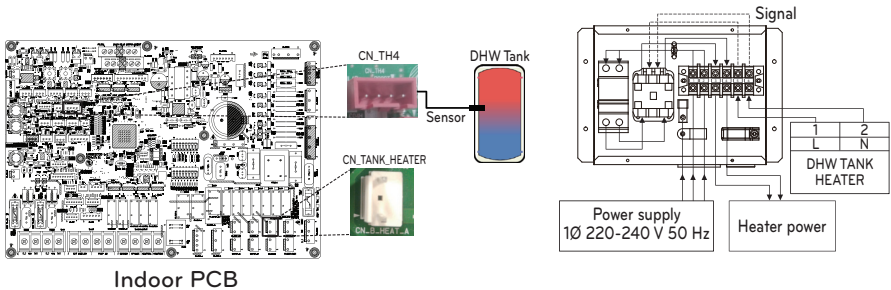

Fig. 1
**Step 2.** Connect Harness(Violet) of Main PCB assembly(TB1(6/7)) to 'CN\_TANK\_HEATER' of the Main PCB like following fig. 1.
**Step 4.** Connect power supply to the DHW tank kit as shown fig. 1.
**Step 1.** Decide where the remote temperature sensor is installed. Then, Determine the location and height of the fixing screws in fig. 1 (Interval between the screws : 60 mm)
[fig. 1]